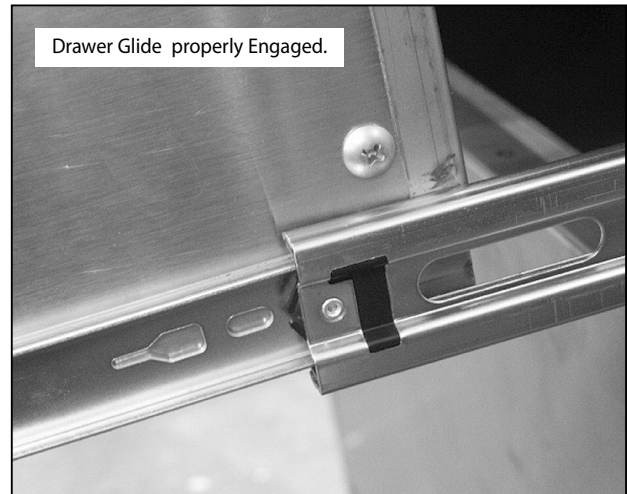

Fig. 61
2. While holding the drawer parallel to the cabinet, carefully align & engage the ends of the glides. Slide the drawer about an inch so that the glides are supporting the back of the drawer (Fig. 61).